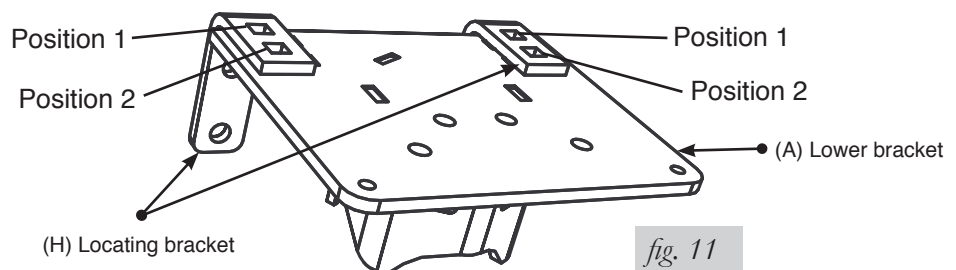

fig. 11
1. Insert a 3/8-16 x 5.5 hex head bolt (K) and 3/8" flat washer (U) into one of the two bottom holes of the locating bracket (H) (fig. 11).
- 2a. If you are installing this kit on a single rear wheel (SRW) vehicle, use position 2 to insert the long 3/8-16 x 10 carriage bolt (P) through the top of the locating bracket and lower bracket (fig. 11).
- 2b. If you are installing this kit on a dual rear wheel (DRW) vehicle, use position 1 to insert the long 3/8-16 x 10 carriage bolt (P) through the top of the locating bracket and lower bracket (fig. 11).
3. Attach the locating bracket (H) to the lower bracket with a 3/8-16 x 1.25 carriage bolt (O), 3/8" flat washer (U) and 3/8-16 nyloc nut (T) using the remaining slot in the top of the locating bracket. Leave loose at this time.
5. Using the 3/8-16 x 5.5 hex head bolts (K) and 3/8" flat washers (U) previously installed on the locating brackets, insert them into the spring clamp bar (E) on the opposite side of the leaf spring assembly (fig. 11). Cap with 3/8" flat washers (U) and 3/8-16 nyloc nuts (T). Leave loose at this time.